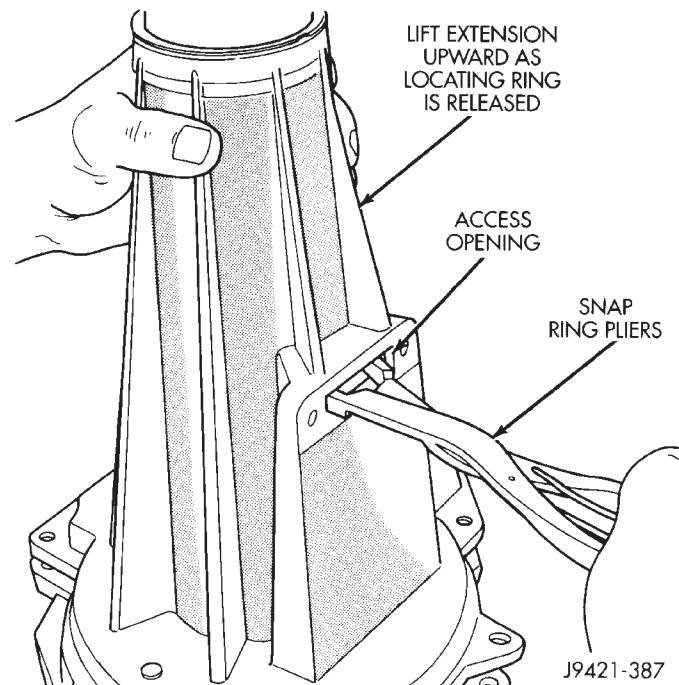

Fig. 25 Releasing Mainshaft Bearing Retaining Ring
(12) Remove rear extension as follows:
- (a) Spread mainshaft bearing retaining ring with snap ring pliers (Fig. 25).